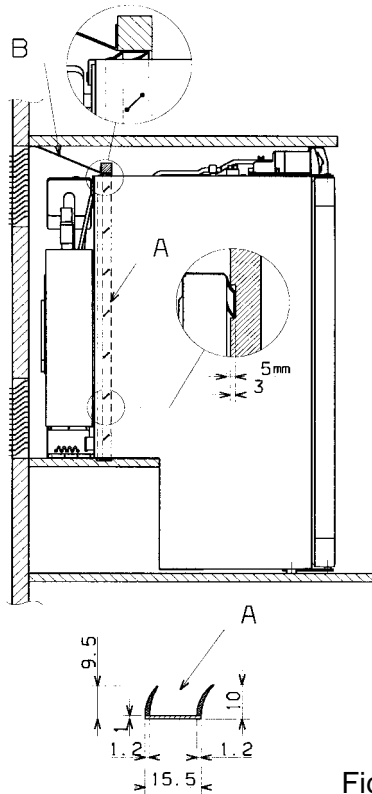

Fig.1
If the appliance is installed on the same side of the vehicle as the entrance door, it is desirable that the door does not cover the refrigerator's vents (fig. 1, gap between door and vent grille min. 25 mm). Otherwise ventilation could be impaired which causes a loss in cooling performance. Awnings are often placed at the door side of a caravan. This complicates discharge of combustion gases and heat through the ventilation grilles (loss in cooling performance)!
(Fig.1) Air vent grille blocked. There must be a distance between the door and the air vents of at least 25 mm! If the door/grille distance is between 25mm and 45 mm, we recommend installing a **Dometic ventilation kit (spare part no. 241 2985 - 00/0)** to achieve an optimal cooling performance in high ambient temperatures.
Insert deflector plate (B), fitted with a lipped seal (A) of heavy-duty, nonflammable material, into the installation recess (see Fig. 1).
In addition, discharge plate (B) with its lipped seal (A) must seal the refrigerator off from the living area (see Fig. 1).